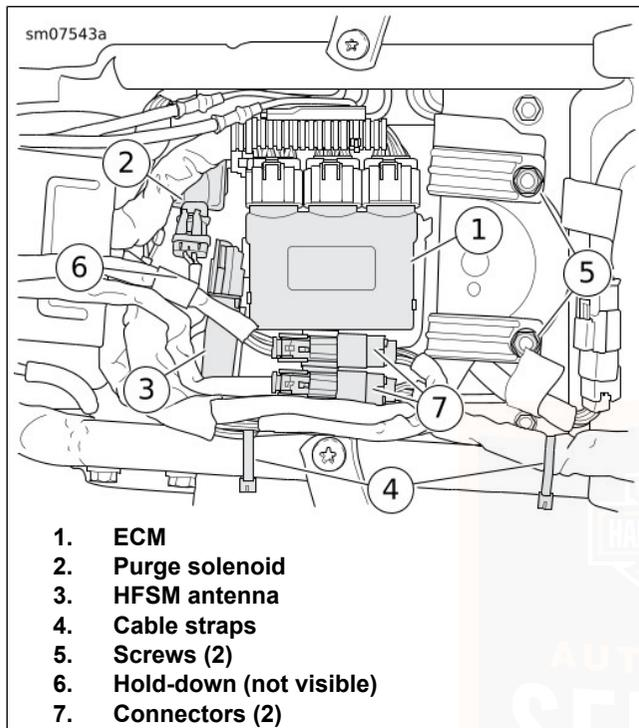

Figure 89. Top Caddy
2. See Figure 89. Release ECM (1) from top caddy. Move out of the way.
3. If present, move purge solenoid (2) forward to release from top caddy.
4. **Models with security system:** Release HFSSM antenna (3) from top caddy and move out of the way.
5. Release connectors (7) from anchors on top caddy.
6. Remove fasteners (5).
7. Cut cable straps (4). Move harnesses to allow more clearance for the top caddy.
7. See Figure 89. Place top caddy into position and engage latch on hold-down bracket.
8. Fasten top caddy to frame crossmember with fasteners (5). Tighten.